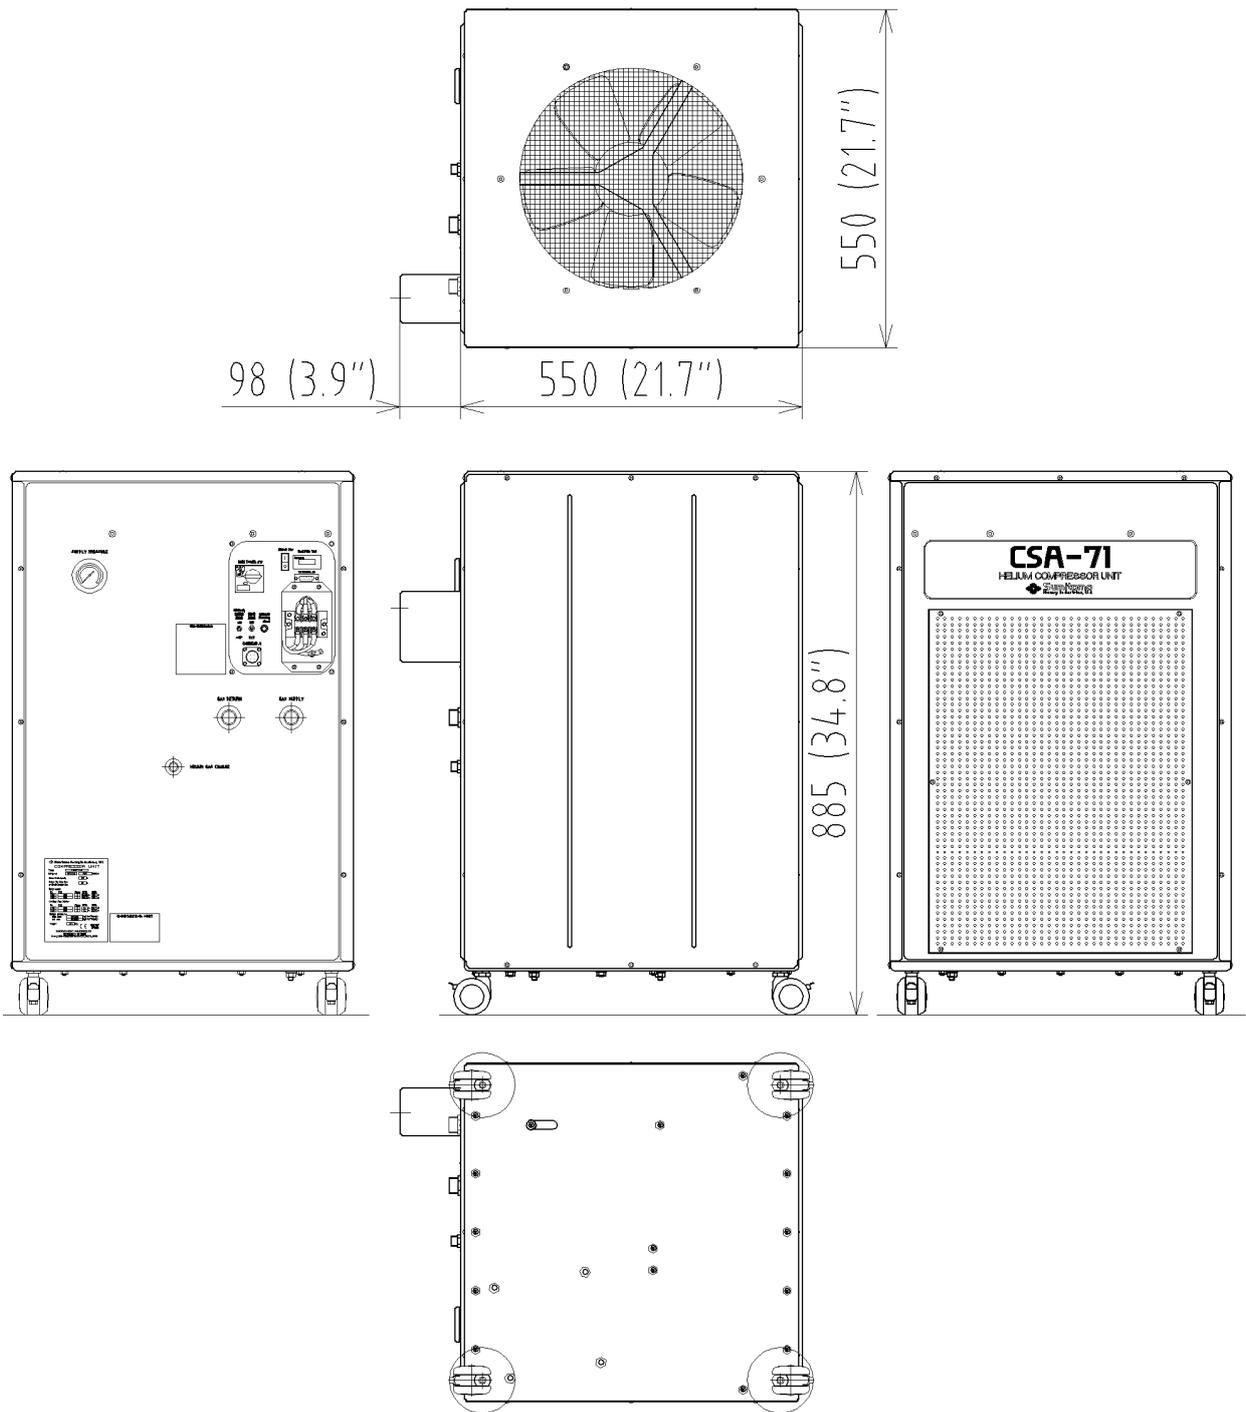

Figure 1.1 OUTLINE VIEW FOR CSA-71A COMPRESSOR UNIT
* Input Power Cable Terminal Cover is 98.0 mm. See the **Figure 1.1**.